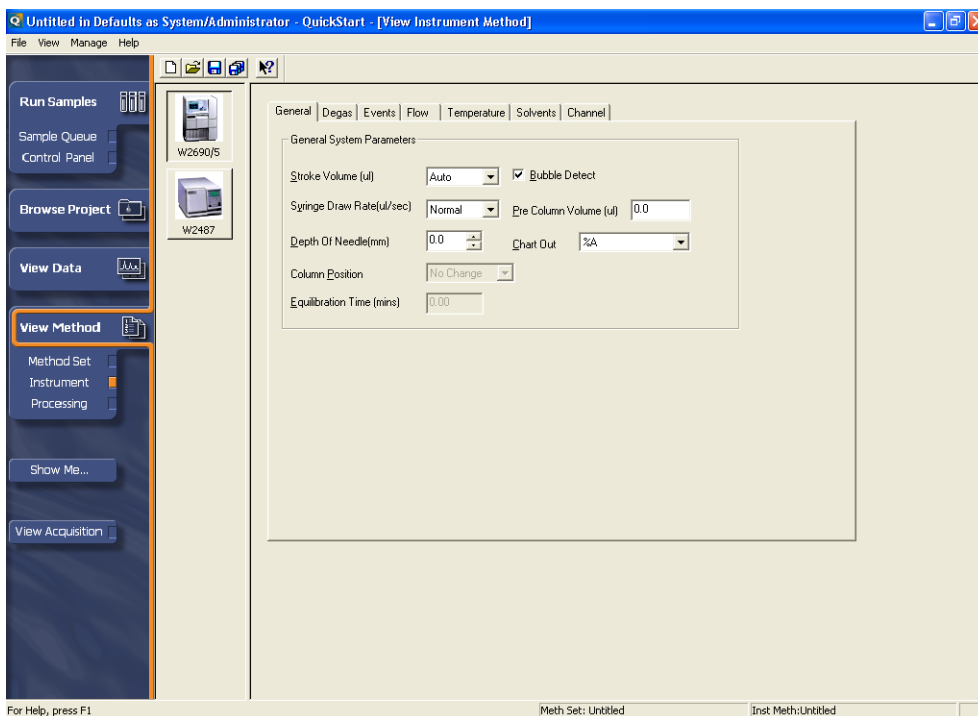

Figure 4-3 View Instrument Method, 2690/2695, General Tab
3. Under **View Method**, click **Instrument** on the navigation bar. The View Instrument Method window appears (Figure 4-3).